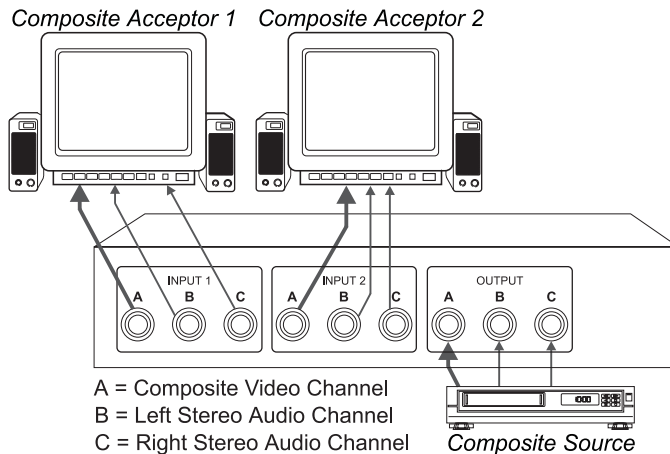

Figure 3: Connecting the VS-21 as a 1x2 Composite Video/Audio Switcher
- 1x2 Composite video switcher1 with 2 audio channels (see Figure 3)
To use your **VS-21** as a 1x2 composite video/audio switcher, connect the **VS-21** as the example in Figure 3 illustrates: